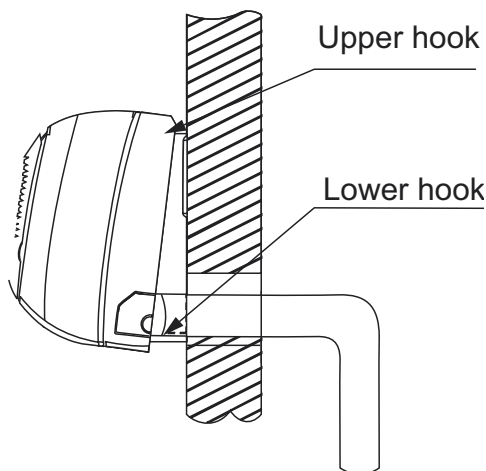

Fig. 32 — Indoor Unit Installation
7. Push the lower part of the indoor unit up on the wall, then move the indoor unit from side to side, up and down to ensure it is hooked securely (see Fig. 32).